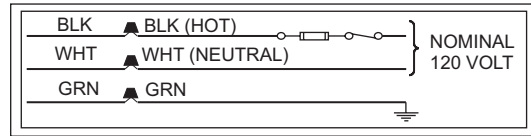

FIGURE 6: Line Wiring Connections
3. The furnace's control system requires correct polarity of the power supply and a proper ground connection. Refer to Figure 6.